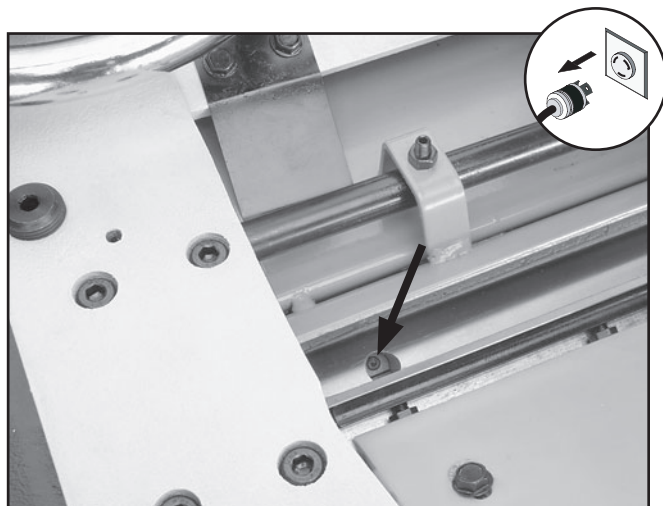

Figure 28. Jack screw access hole.
7. Using a 3mm hex wrench, find the jack screws through the access holes in the cutterhead (**Figure 28**) and rotate the jack screws to raise or lower the knife. When the knife is set correctly, it will barely touch the middle pad of the knife setting gauge. Snug the gib bolts tight enough to just hold the knife in place. Repeat **Steps 5–7** with the rest of the knives.